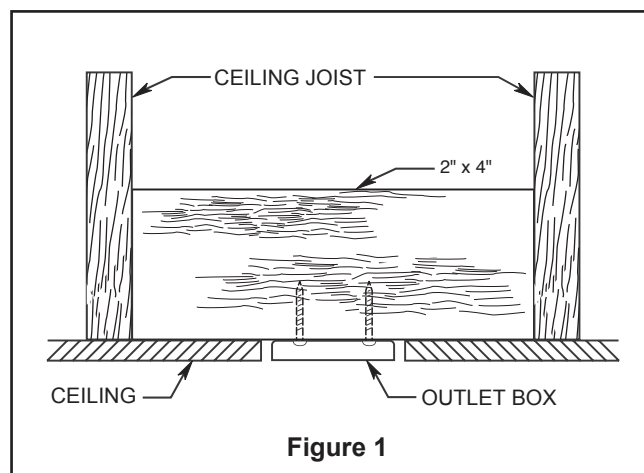
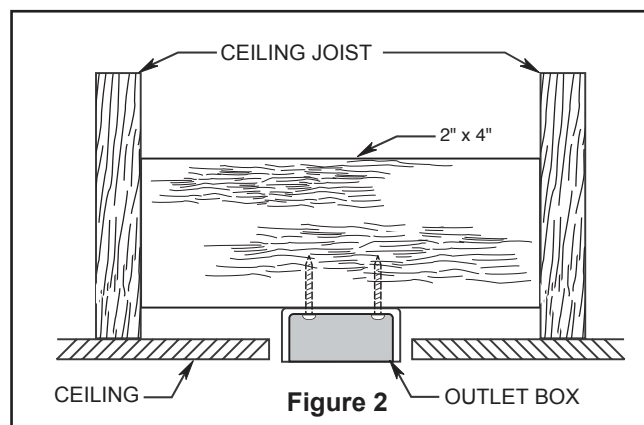

Figure 1
Figure 2
Your new ceiling fan will require a grounded electrical supply line of 120 volts AC, 60 HZ, 15 Amp Circuit. Electrical code requires use of a fan-rated outlet box to support the extra weight and motion associated with a ceiling fan. A fan-rated box will be labeled as such and typically supports up to a 70lb ceiling fan. Fan-Rated Outlet Boxes vary in ratings and design. Ensure the ratings of your ceiling fan outlet box meet the requirements for the ceiling fan being installed. Figure 1, Figure 2 and Figure 3 depicts different structural configurations that may be used for mounting the outlet box.
### Low profile box (Figure 1)
### Deep box (Figure 2)
- 5. Route wires through opening in canopy. Position canopy on fan shown with open side facing up. (Figure 2)
- 6. Reinstall the hanger ball (Figure 2) on the downrod as follows. Route the three 80" wires through the hanger ball. Position the pin through the two holes in the downrod and align the hanger ball so the pin is captured in the groove in the top of the hanger ball. Pull the hanger ball up tight against the pin. **Securely tighten the setscrew in the hanger ball. A loose setscrew could create fan wobble.**
1. Securely attach the hanger bracket to the outlet box using the outlet box screws and washers supplied with the outlet box. (Figure 2)
**NOTE:** Outlet box screws pass through slotted holes of the hanger bracket. (Figure 2)
3. Carefully lift the fan and seat the downrod/hanger ball assembly onto the hanger bracket that was just attached to the outlet box (Figure 3). Be sure the groove in the ball is lined up with tab on the hanger bracket. (Figure 2)
- 2. Securely attach the canopy housing to the hanger bracket using the external lockwashers and knurled knobs supplied with your fan. (Figure 2)